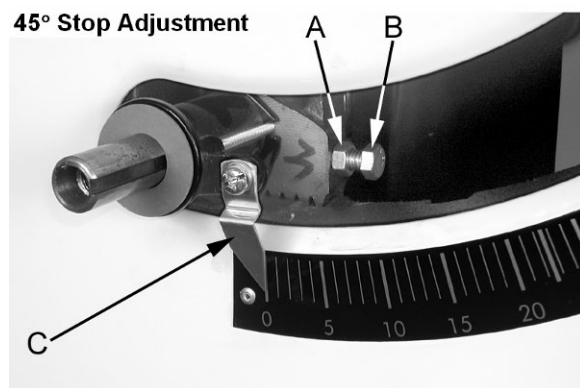

Figure 20
- Check the accuracy of the pointer (C, Fig. 20) on the angle scale and adjust, if necessary.